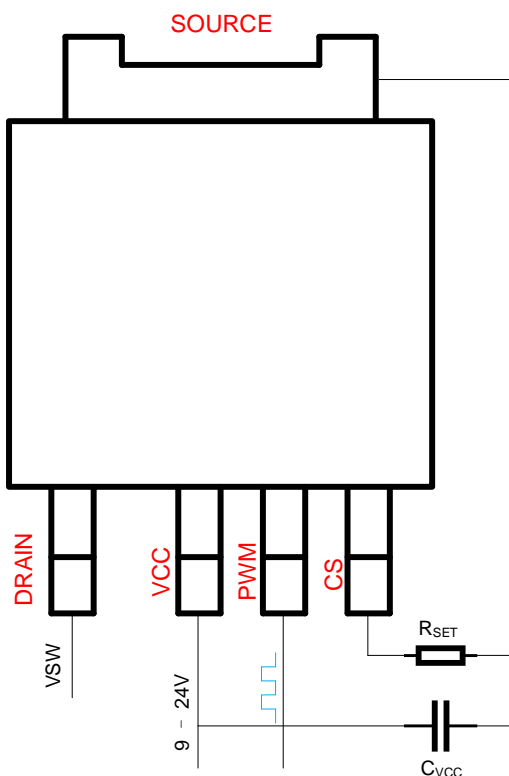

Figure 18. IC connection diagram
The typical connection diagram for this GaN Power IC is shown in Figure 18. The IC pins include drain of the GaN power FET (D), source of the GaN power FET (S), IC supply (V_{CC}), PWM input (PWM), and current sensing output (CS). The external components around the IC include V_{CC} filter capacitor (C_{VCC}) connected between V_{CC} pin and S pin, a current sense amplitude set resistor (R_{SET}) connected between CS pin and S.